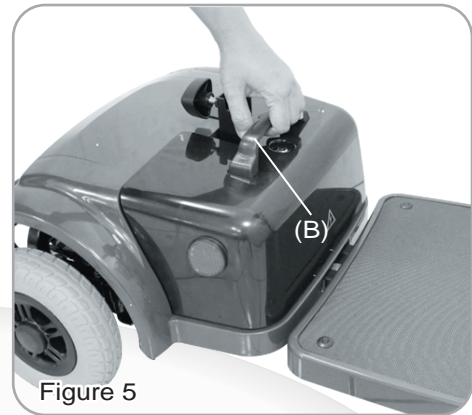

Figure 5
Use the Battery Pack Handle (B) to pull the battery pack up and off from the scooter. (See Fig. 5)